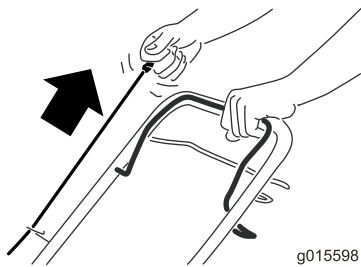

Figure 14
2. Pull recoil start handle (Figure 14).